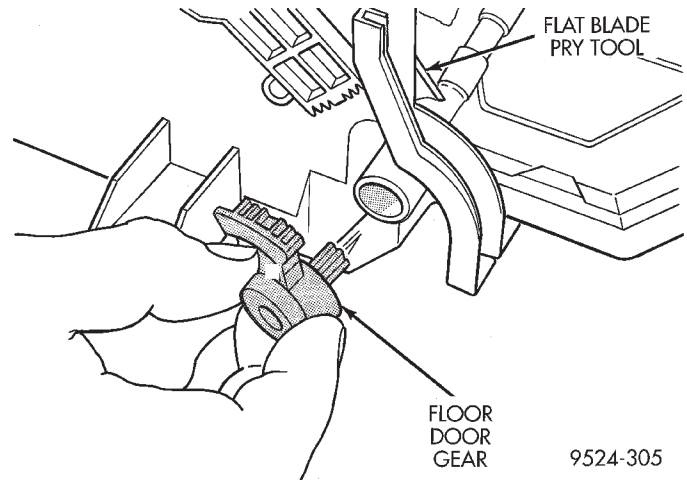

Fig. 98 Floor Door Gear
(28) From the panel door air opening, using a long thin screwdriver, push in clip for floor door gear. Remove floor door gear (Fig. 98).